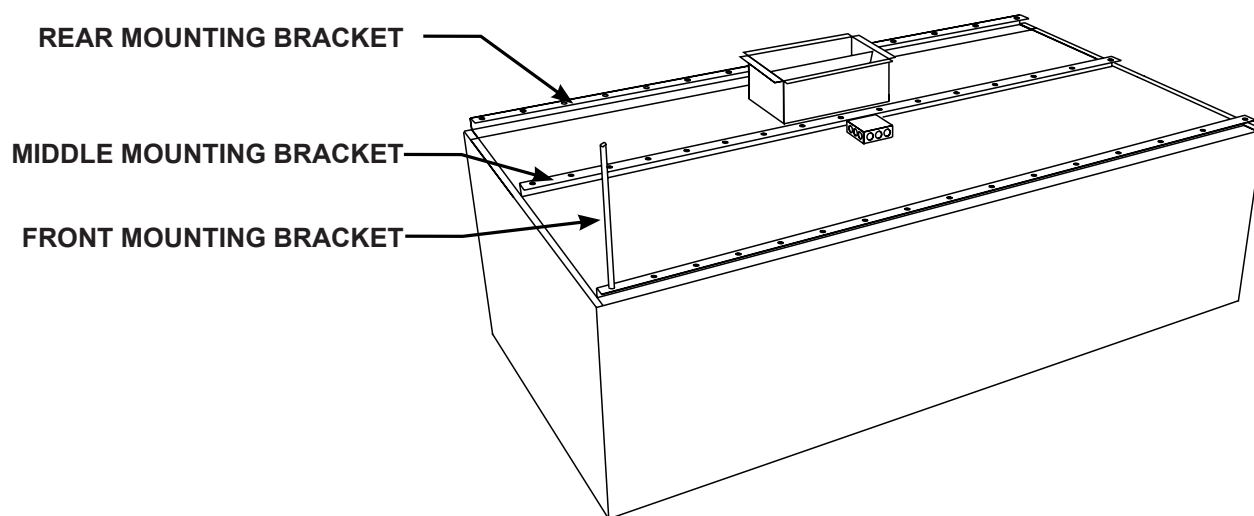

Figure A-2-1
3. Each Ventilator section has a full length Rear Mounting Bracket at the rear for bolting to the wall and/or hanging from the overhead. There are two other full length hanging brackets; the Middle Mounting Bracket and the Front Mounting Bracket for hanging from the overhead (refer to Figure A-2-1). All three Hanging Brackets have pre-punched holes centers for hanging from the overhead. Hanging rods to be supplied by the Ventilator installer. If the rear bracket is used for bolting to the wall the holes must be drilled by the installing contractor at a support point in the wall. Refer to Table T-A-1-1 for minimum number of mounting points.